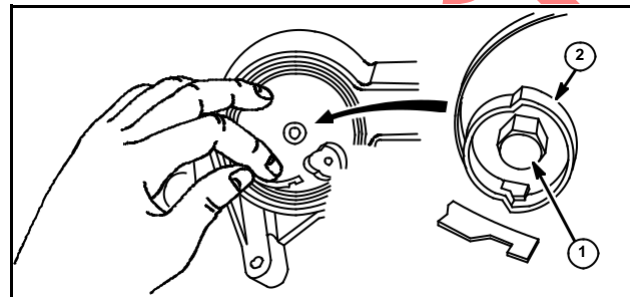

Fig. 52
5. Remove anchor bolt (1) and anchor (2), Fig. 52.